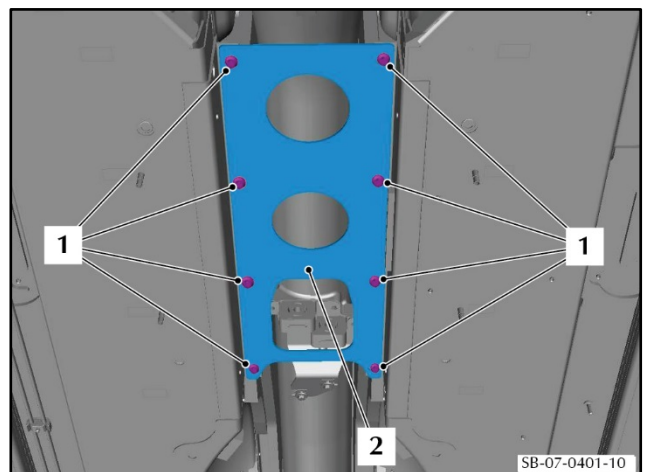

Figure 13
21. Remove the eight bolts (1) that attach the tunnel reinforcement plate (2) to the body and remove the plate (2) (refer to Figure 13).